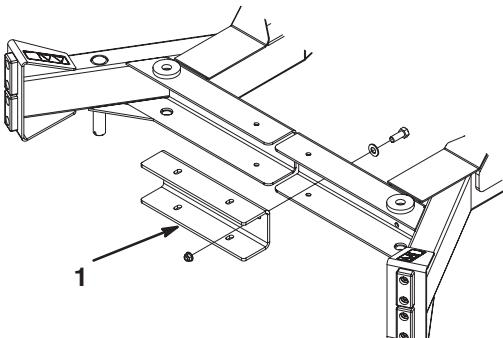

Figure 9
4. Secure right and left lift arms together with the connection channel and (10) 3/8 x 1-1/4" lg. screws, .406 x .813 flatwashers and 3/8 flange locknuts. Position as shown in figure 9. Torque to 27–33 ft-lb.